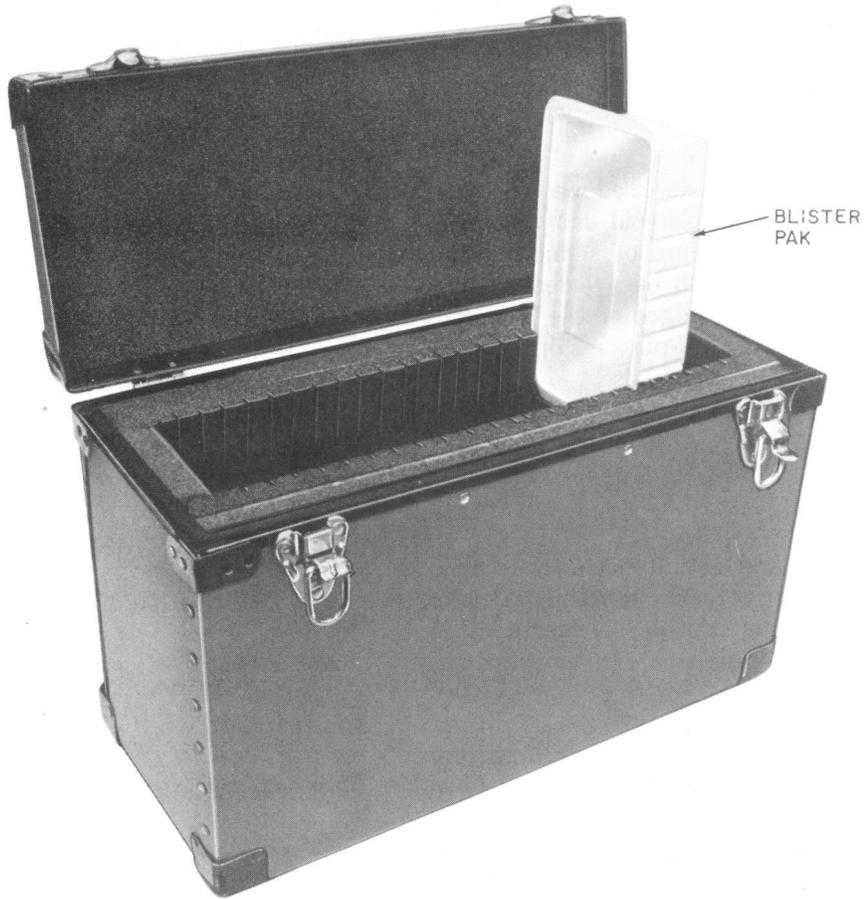

Fig. 7—KS-21040 Carrying Case
- (1) Polystyrene foam package.
- (2) Chipboard carton (with the circuit pack in a blister pak or an approved polyethylene bag before it is placed in the chipboard carton). The outer package must be able to meet the shock and vibration requirements as specified in Equipment Design Standards Specification X74500, 3.3.2 and 3.3.3.
**4.09** A carrying case KS-21040 (Fig. 7) is available for transporting circuit packs between regional centers and central offices. The circuit pack must be in a blister pak before being placed into the case; however, the blister paks themselves should